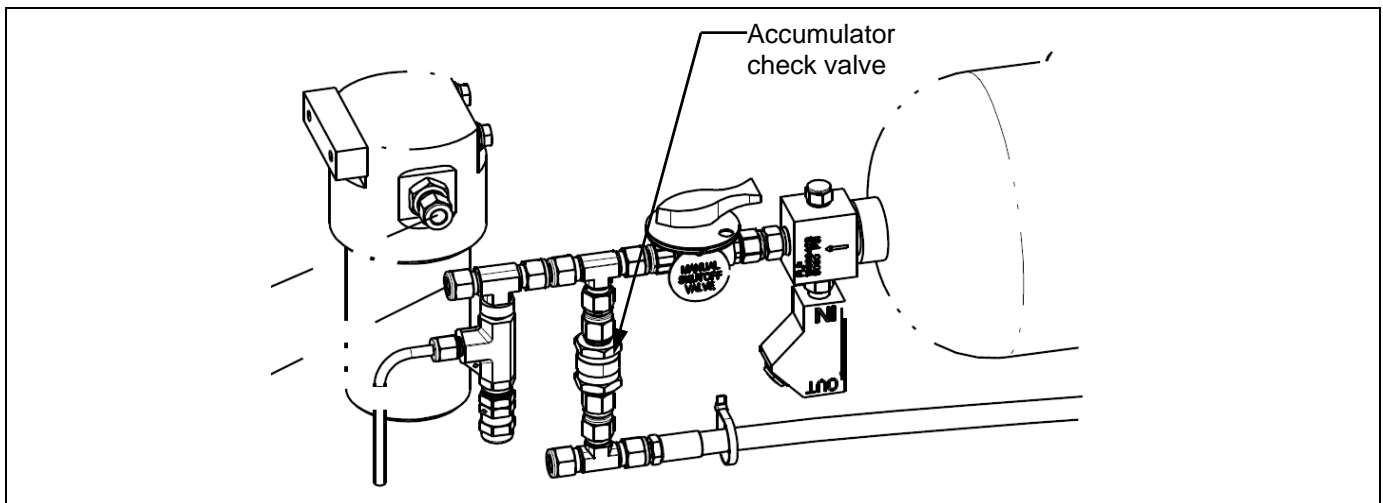

Figure 9: Accumulator check valve configuration (ADR80/02 build shown with check valve still installed).
- 29. Remove the check valve found near the accumulator. An example of this valve is shown in Figure 9 although other configurations are possible.